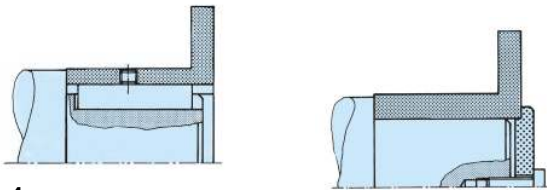

Fig. 4
On key connections, the hubs (1) are placed onto the shaft and secured axially. This takes place via a set screw which presses radially onto the key, or via a press cover and a screw, screwed into the shaft central thread, Fig. 4.